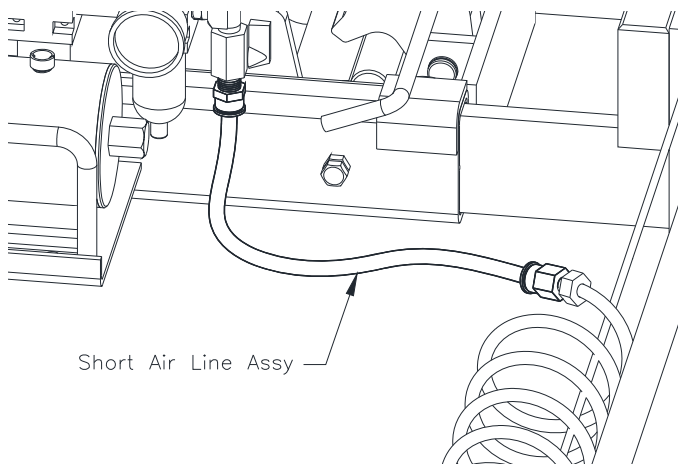

Figure 11
15. Attach Short Air Line Assembly to spiral flex air line closest to the Jack air connection point. Connect male end to fitting on Jack as shown in **Fig 11**.